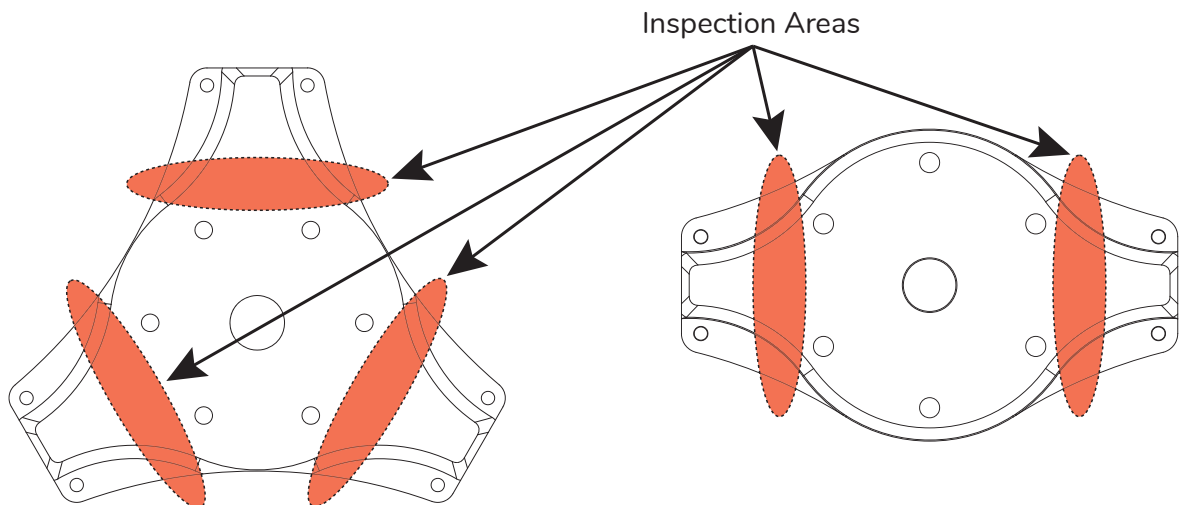

Figure 3: HP Hub Inspection Areas
Figure 3 (below) indicates where cracks may initiate. From the very few cases that have presented themselves, cracking may start under the faceplate or under the engine propeller flange/extension therefore removing the propeller is required.
7. Visually inspect both hub halves using a flashlight and a 10x magnifying glass. Pay close attention to the areas shown in Figure 3. Figures 4 and 5 below show crack examples.